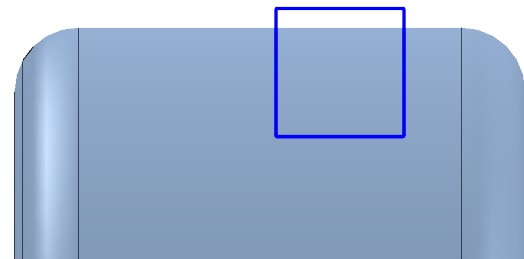

Fig. 19
Step 3. Click **Corner Rectangle**  (S) in the **Rectangle flyout**  on the Sketch toolbar.
Step 4. Draw a rectangle along the top edge of the wheel. Keep rectangle away from the fillet, **Fig. 19**.